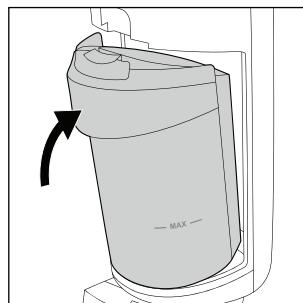

Fig. 30
- ◆ Fit the waste water tank ② back onto the appliance by inserting the bottom of the waste water tank ② first. Then push the waste water tank ② into the appliance until the waste water tank ② audibly clicks into place (see fig. 30).